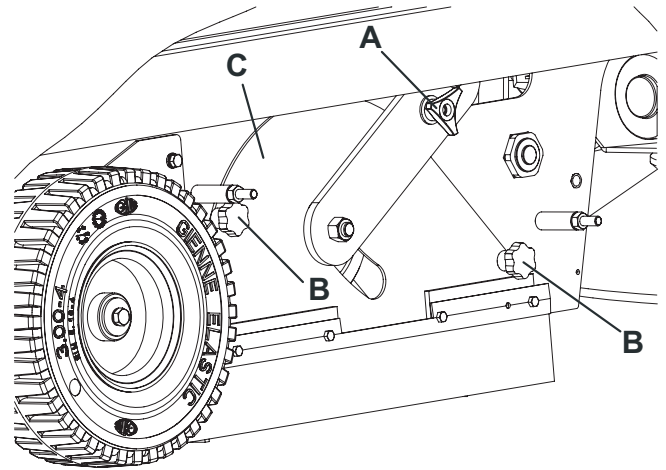

Figure 3
1. Drive the machine on a level ground and engage the parking brake with the pedal (3) and the lever (4).
2. Turn the ignition key (82) to "0".
3. Unscrew the knobs (23) and remove the right door (22).
4. Loosen the knob (A, Fig. 3).
5. Unscrew the knobs (B, Fig. 3) and remove the broom compartment cover (C).
10. Install the broom compartment cover (C, Fig. 3) and screw the knobs (B) and (A).
11. Install the right door (22), then screw the knobs (23).